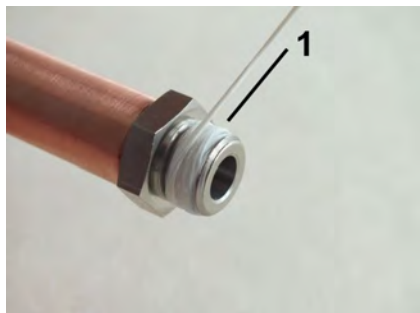

Fig. 8: Apply sealing thread
2. ➤ Apply sealing thread (Fig. 8/1) to the napped area in the threaded direction. Observe the quantity recommended by the sealant manufacturer.